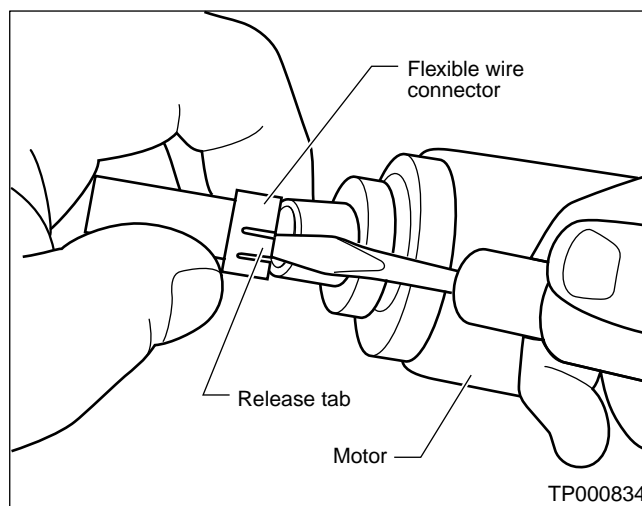

Figure 8
16. Remove the flexible wire from the gear boxes. To release the flexible wire from the motor end, pull up on the tab using a flat blade screwdriver or equivalent (see figure 8).